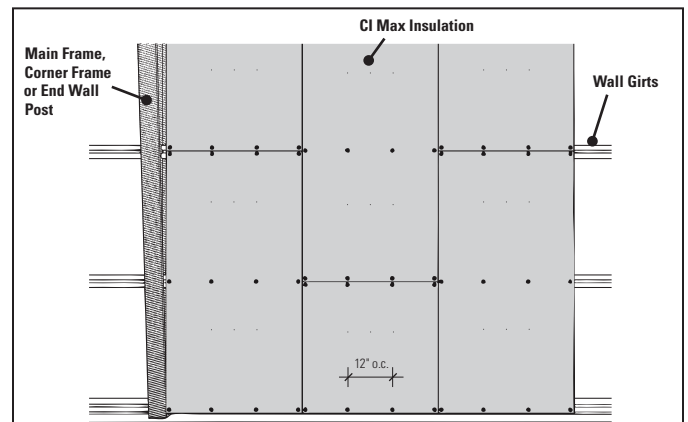

Figure 4. Fastener spacing for CI Max foam sheathing over the interior of pre-engineered metal building girts
6. Fasteners should be spaced 12 inches, across the face of each girt, as shown in Figure 4. Drive fasteners so the metal stress plate is tight and flush with the board surface but do not countersink.